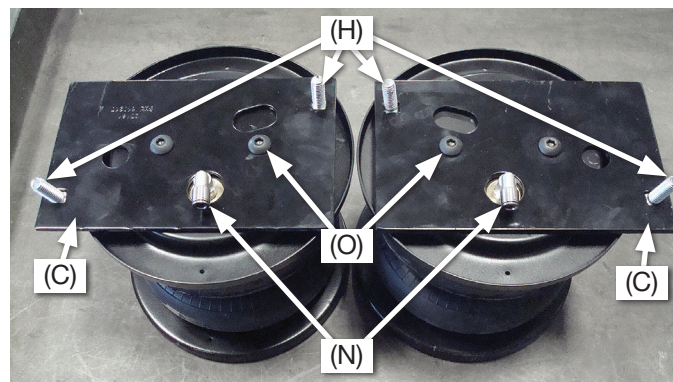

Fig. 11
2. Set both air springs in front of you with the fitting inserts pointing toward you (Fig. 11).
The upper air spring brackets will be mirror images when set onto the air springs (see Fig. 11).
4. Set both brackets onto the air springs and attach using the 3/8"-24 x 3/4" button-head cap screws (O) (Fig. 11). Torque to no more than 20 lb.-ft. (27Nm).
5. Install the swivel fitting (N) into the top of the air spring assemblies finger-tight plus 1 1/2 turns (Fig. 11). Repeat for both air springs.